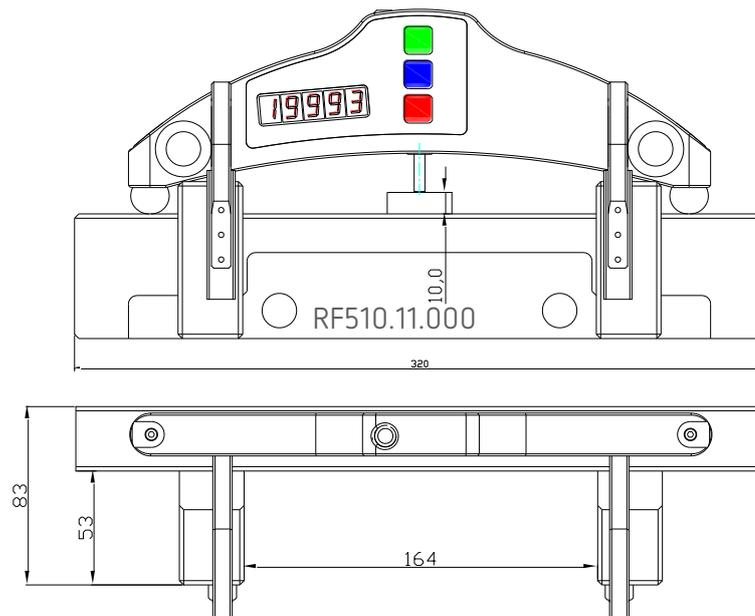

Figure 4
- Calibration plate with the deviation from flatness less than  $\pm 0,5 \mu\text{m}$  for 250 mm length (or Flat block FDRF510.11.000, figure 4);